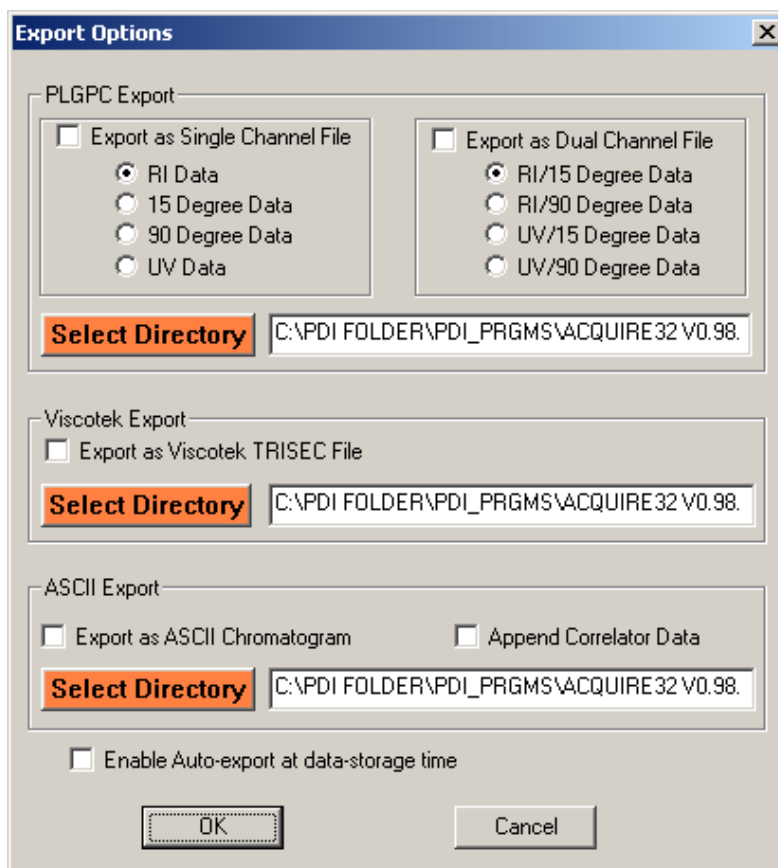

Figure 3-3: The Export Options Dialog Box
- **Export** - presents the *Export Options* dialog box (Figure 3-3), which is used to indicate the export format, type of data and directory for the data to be stored in if the data should be analyzed via an external program. The operator should select the desired format via the check box(es) and if either of the PLGPC formats is selected, the appropriate radio button should be selected. The directory buttons are used to select the desired folder in which the data is to be stored, as an alternative, the directory name can be typed in the field. Additional information about the Export Options dialog box is presented in Section 9.2.